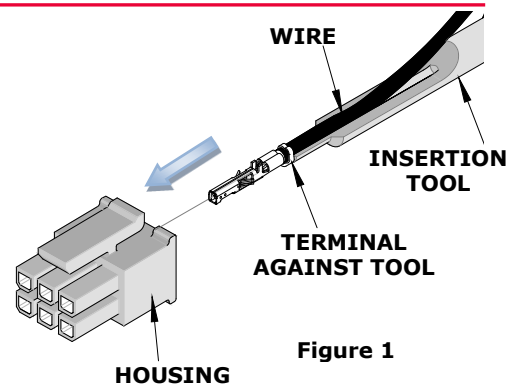

Figure 1
1. To properly use this tool, with the flat side facing up, place the wire in the groove of the tool so that the terminal is touching the end of the tool. See Figure 1.